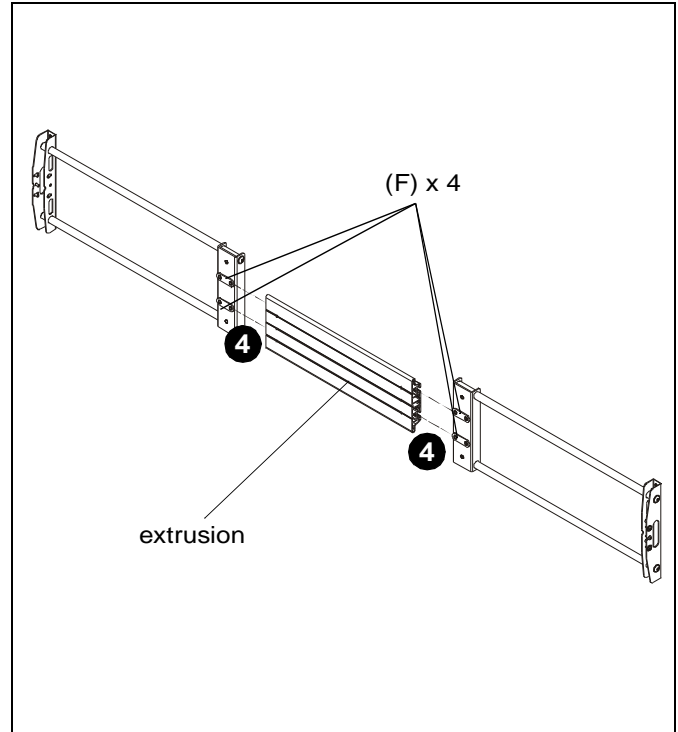

Figure 9
**IMPORTANT !** : Do NOT tighten at this time. Leave enough space between studs and brackets so that studs can slide into cart extrusion slots. (See Figure 9)
4. Slide t-slot studs (F) into grooves on back of extrusion until desired mounting positions are reached. (See Figure 9)